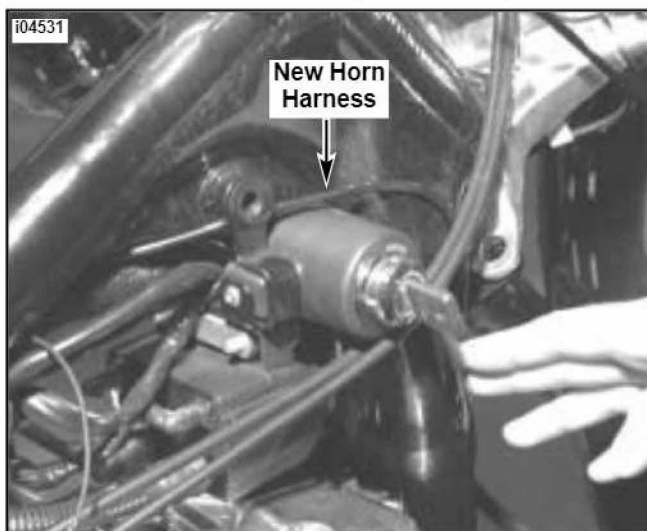

Figure 4. Route Harness to New Horn Location
10. See Figure 4. Continue to route terminal end of horn harness forward and down behind the two front frame downtubes.